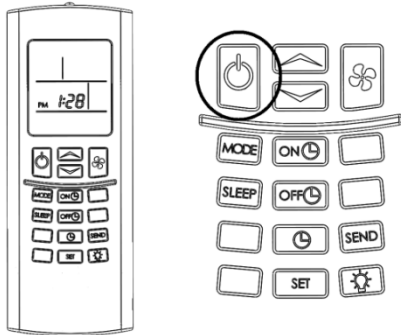

Figure 17 - Turn unit on
- Using the remote control (Item #6) press the ON/OFF button. Figure 17. Each command from the remote control should be answered by a 'beep' from the receiver in the plenum.